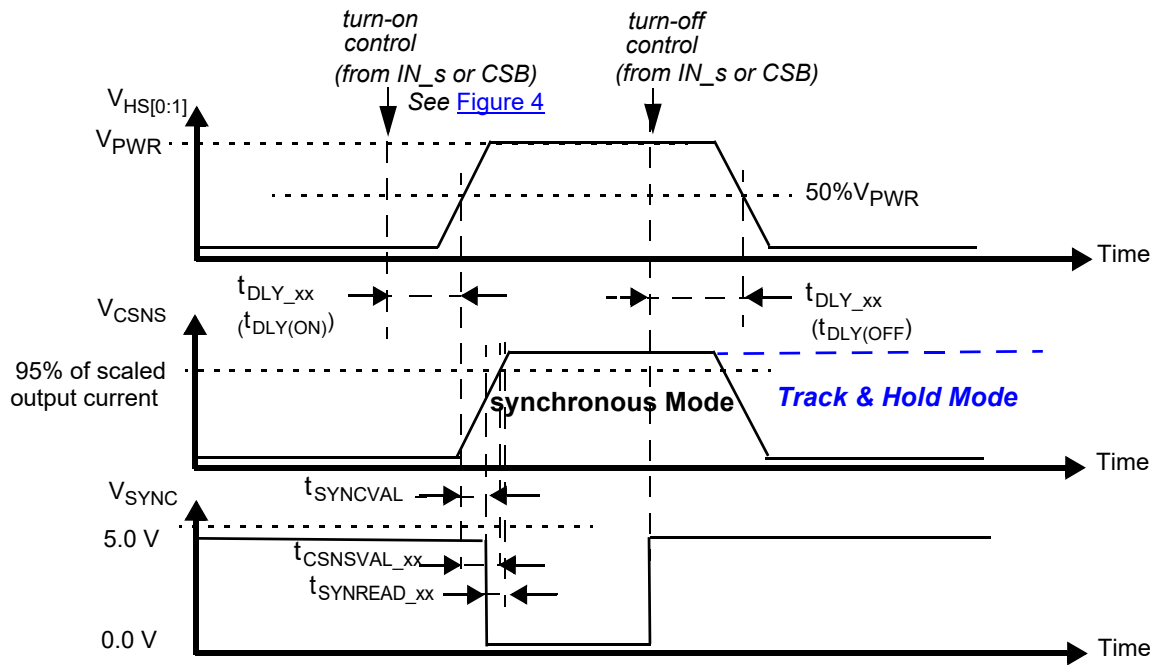

Figure 9. Synchronous and Track & Hold current sensing modes: associated delay and settling times
34. Settling time ($= t_{\text{CSNSVAL_xx}}$), SYNC output signal delay ($= t_{\text{SYNCVAL_xx}}$) and Read-out delay ($= t_{\text{SYNREAD_xx}}$) are defined for a stepped load current ($100\text{ mA} < I(\text{LOAD}) < I_{\text{OCLX A FOR CSNS_RATIO_S}} = 1$, AND $300\text{ mA} < I(\text{LOAD}) < I_{\text{OCLX A_0 FOR CSNS_RATIO_S}} = 0$). (see Figure 9 and Output current monitoring \(CSNS\))
The CS pin allows independent current monitoring of channel 0 or channel 1 up to the steady-state overcurrent threshold. It can also be used to sense the device temperature. The different functions are selected by setting bits CSNS1_en and CSNS0_en to the appropriate value (Table 23). When the CSNS pin is sensed during switch-off in the (optional) track & hold mode (see Figure 9), it outputs the scaled value of the load current as it was just before turn-Off. When several devices share the same pull-down resistor, the CSNS pins of devices, the current of which is not monitored, must be tri-stated. This is accomplished by setting CSNS0_en = 0 and CSNS1_en = 0 in their GCR register (Table 12). Settling time ($t_{CSNSVAL_XX}$) is defined as the time between the instant at the middle of the output voltage’s rising edge ($HS[0:1] = 50\%$ of V_{PWR}), and the instant at which the voltage on the CSNS pin has settled to $\pm 5.0\%$ of its final value. Anytime an overcurrent window is active, the CSNS pin is disabled (see Overcurrent detection on resistive and inductive loads). The current and temperature sensing functions are unavailable in Fail-safe mode and in Normal mode when operating without the V_{DD} supply voltage. In order to generate a voltage output, this pin requires a pull-down resistor ($R(CSNS)=1.0\text{ k}\Omega$ typ. and $470 < R(CSNS) < 10\text{ k}$). When the current sense resistor connected to the CSNS pin is disconnected, the CSNS voltage is clamped to $V_{CL(CSNS)}$. The CSNS pin can source currents up to about 5.6 mA.
To synchronize current sensing with an external process, the SYNC signal can be connected to a digital input of an external MCU. An open-drain pull-down on SYNC indicates that the current sense signal is accurate and ready to be read. The current sense signal on the CSNS pin has the specified accuracy $t_{SYNCREAD_XX}$ seconds after the falling edge on the SYNC pin (Figure 9) and remains valid until a rising edge is generated. The rising edge that is generated by the SYNC pin at the turn-OFF instant (internal or external) may also be used to implement synchronization with the external MCU. Parameter $t_{SYNCVAL_xx}$ is defined as the time between the instant at the middle of the output voltage rising edge ($HS[0:1] = 50\%$ of V_{PWR}), and the instant at which the voltage on the SYNC-pin drops below 0.4 V (V_{SOL}). The SYNC pins of different devices can be connected together to save micro-controller input channels. However, in this configuration, the CSNS of only one device should be active at a time. Otherwise, the MCU is not be able to determine the source of the SYNC signal. The SYNC pin requires an external pull-up resistor to V_{DD} .